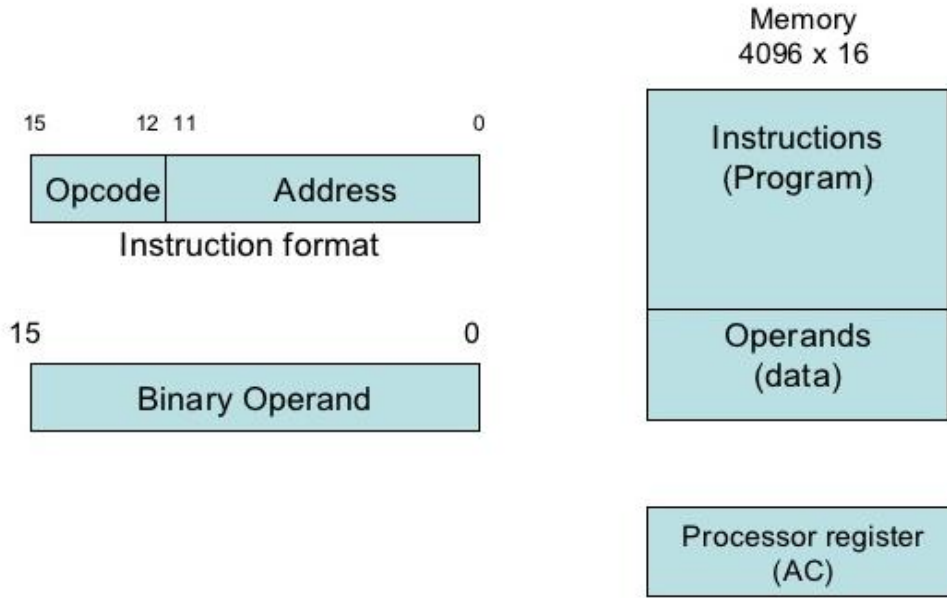

Figure 1-AA: Stored Program Organization
- ❖ **Figure 1-AA** depicts this type of organization. Instructions are stored in one section of memory and data in another.
As an illustration, consider the instruction code format shown in Fig. 1-BB(a).